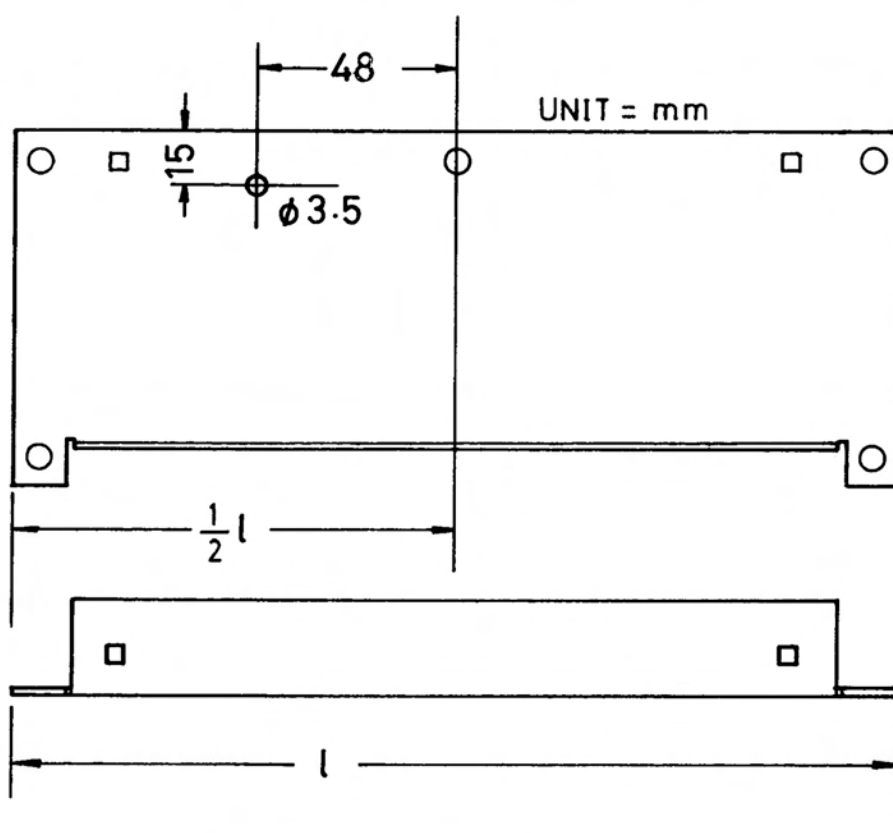

Fig.B-1
- 1) Drill a ϕ 3.5 hole in the Driver PC Board fitting plate. See Fig. B-1.